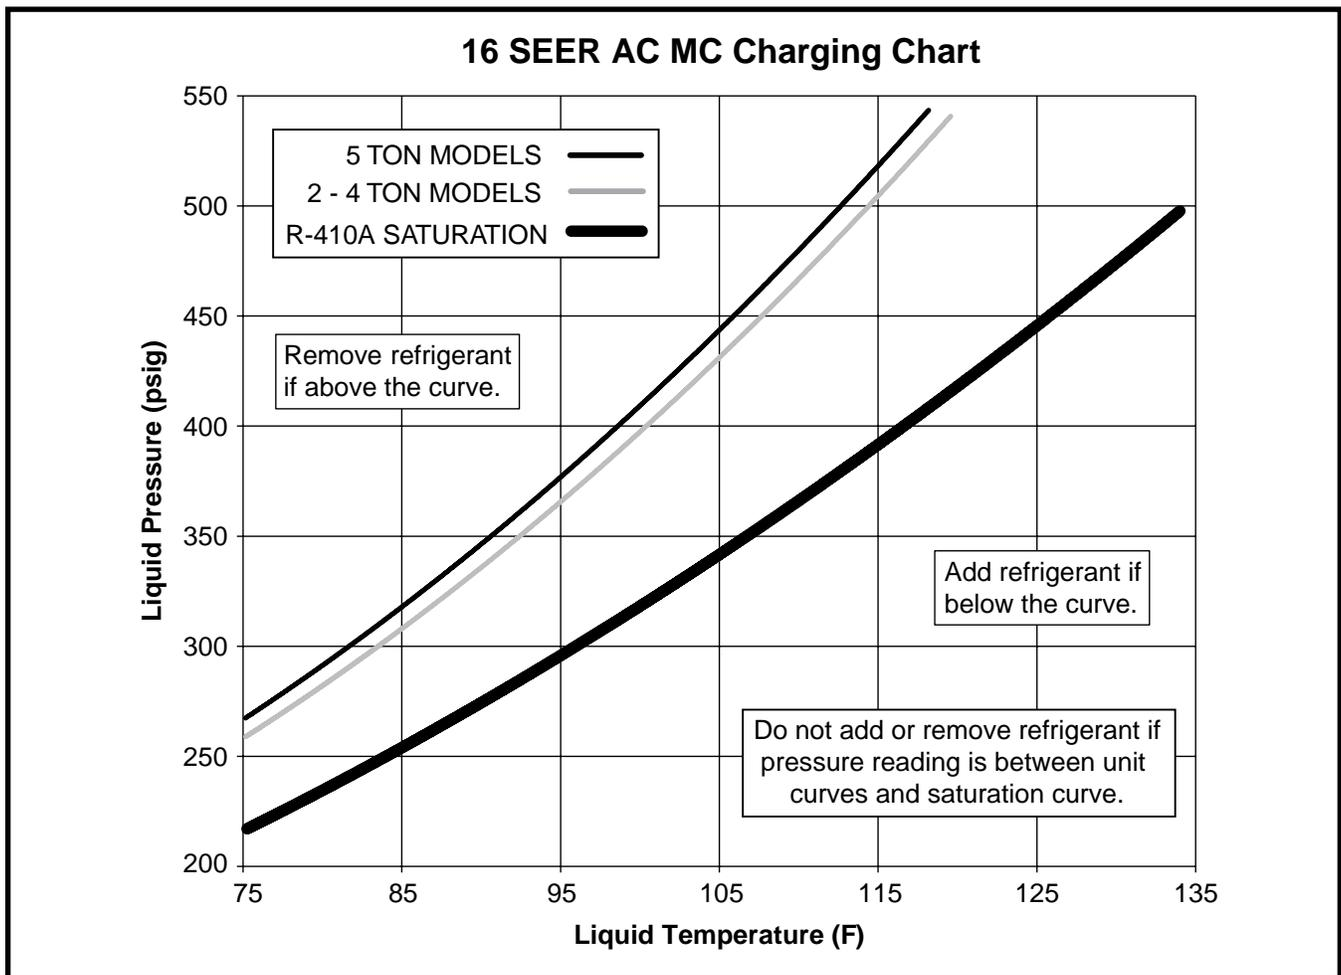

Figure 5. Charging Chart for 2-5 Ton Units
- Refrigerant charging charts are applicable only to matched assemblies of NORDYNE equipment and listed airflows for the indoor coil. Refer to Figure 5 (page 11) for correct system charging.
3. Determine the required liquid refrigerant pressure from the appropriate charging chart (Figure 5).
charging chart (Figure 5), the ideal system sub-cooling can vary over the range of operation. Reference the charts to determine the ideal amount of sub-cooling for a given liquid pressure. Units charged to other values will not perform at the rated unit efficiency (EER) or rated Coefficient of Performance (COP) in heating mode.